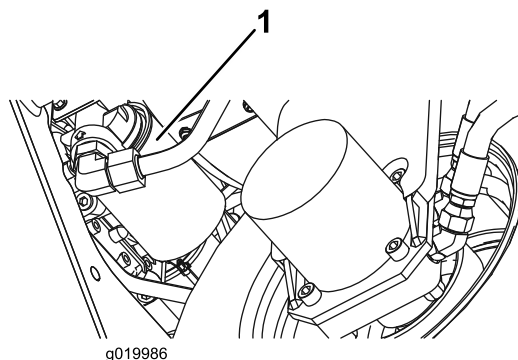

Figure 62
2. Clean around the filter mounting area. Place a drain pan under the filter (Figure 62) and remove the filter.